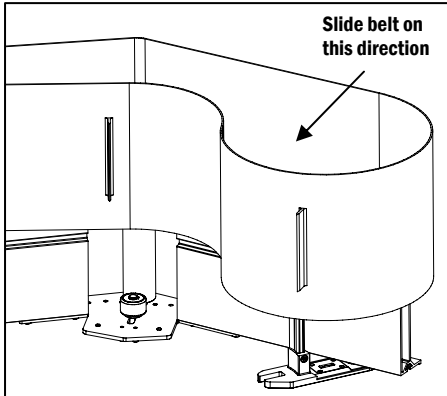

Figure 14
b. Install the new belt by first sliding the belt over the tail end of the conveyor frame and continuing on towards the drive end (Figures 14 & 15). Mount the conveyor back on its stands.